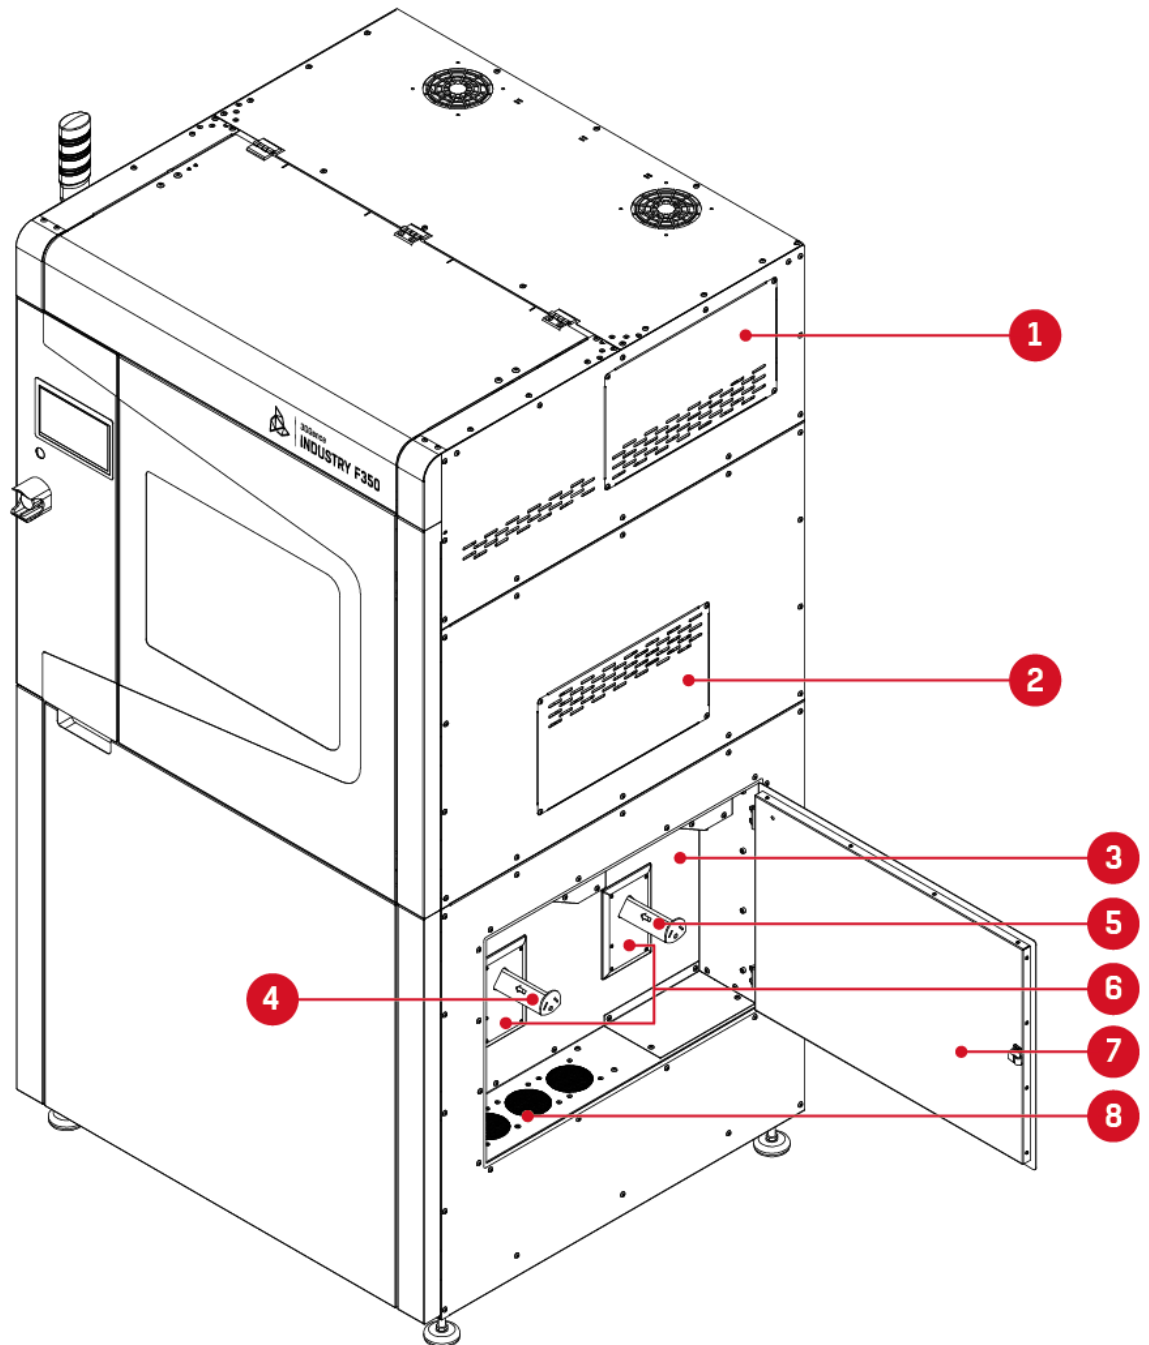

Fig. 17 3DGence INDUSTRY F350 – isometric projection:
The 3DGence INDUSTRY F350 printer is equipped with a heated material chamber (Fig. 17, point 3). The purpose of the material chamber is to keep consumables in an environment of elevated temperature. This prevents moisture ingress, which impairs filament parameters and dimensions. The enclosure protects filaments against direct exposure to sunlight, contamination and accidental damage. Inside the material chamber there are two material bays: for model material (bay 1) and the other for support material (bay 2). In addition to the material bays, there is a heater to control the temperature in the material chamber and SMM readers (Fig. 17).
1. SMM tag reader, located in the material chamber next to each material bay (Fig. 17, point 6);